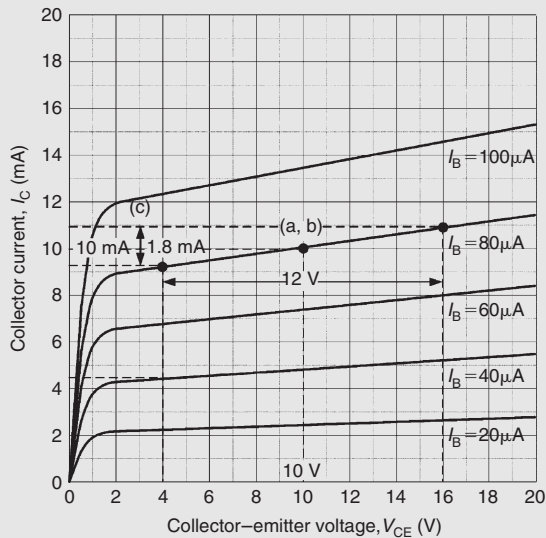

Figure 12.14
**Problem 4.** Fig. 12.14 shows the output characteristic for an n-p-n silicon transistor. When the collector-emitter voltage is 10 V and the base current is  $80 \mu\text{A}$ , determine (a) the value of collector current, (b) the static value of output resistance and (c) the dynamic value of output resistance.
- (a) From Fig. 12.14, when  $V_{CE} = 10 \text{ V}$  and  $I_B = 80 \mu\text{A}$ , (i.e. point (a, b) on the graph), the **collector current,  $I_C = 10 \text{ mA}$**